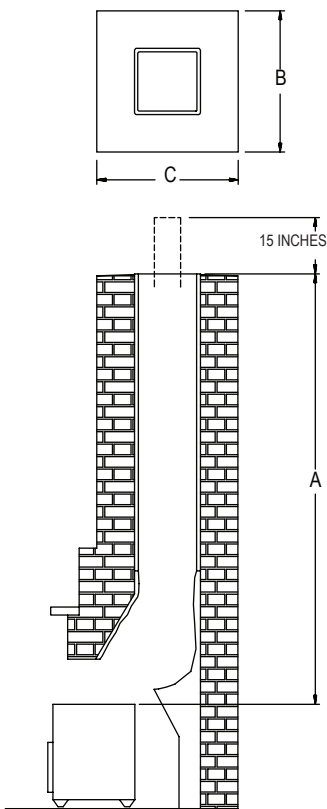

Figure 25
**(a) Measurements.** Measure and record the dimension as shown on **Figure 25** (Height "A"). You will need an additional 15" of vent above the masonry chimney. It is a good idea to allow for a little extra height in your measurements.